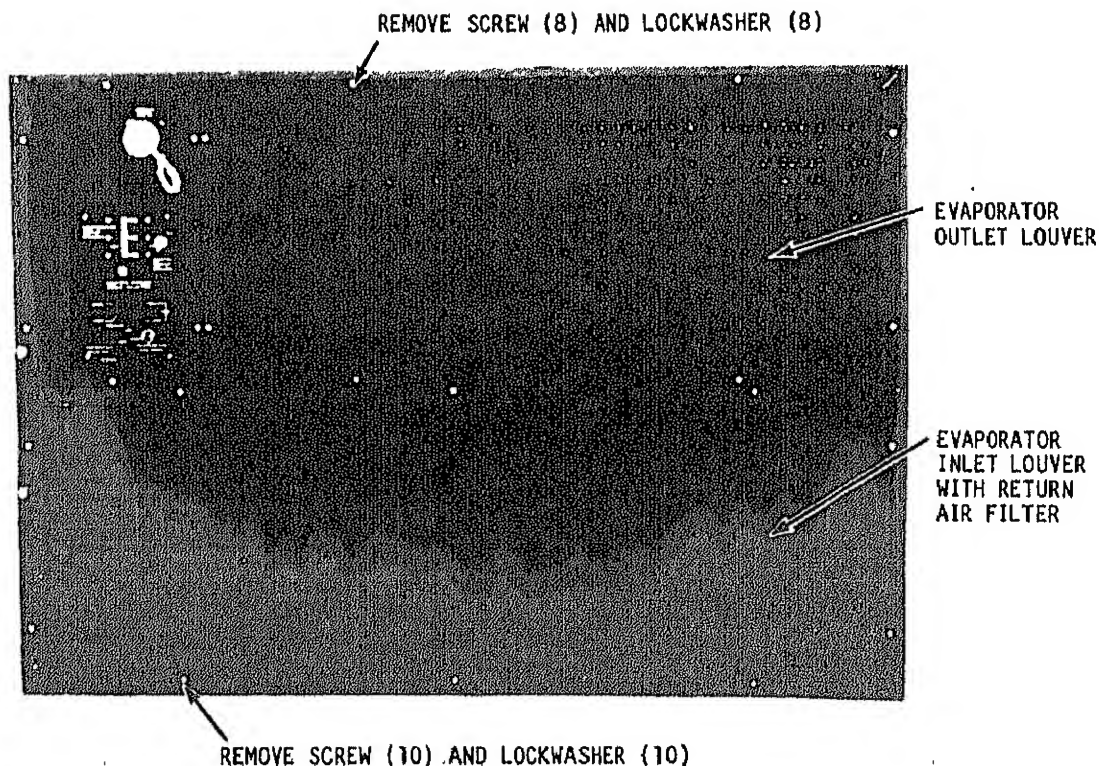

Figure 4-1. Evaporator inlet and outlet louvers, removal and installation
(1) Refer to figure 4-1 and remove evaporator air inlet louver.
(2) Refer to figure 4-1 and install evaporator inlet louver.
exchangers. Frequent cleaning of the external coil surfaces may avoid internal clogging. Clean external surfaces with a softbristled brush or a plastic fin comb. The plastic fin comb can be used to straighten bent coil fins. Clean internally-clogged coils with compressed air. Always direct the compressed air stream straight into coils, to avoid bending fins, and in the opposite direction of normal air flow. Remove covers and louvers (figure 4-1, 4-3 and 4-4) to service coils.
a. Removal. Refer to figure 4-1 and remove evaporator inlet and outlet louvers.
b. Installation. Refer to figure 4-1 and install evaporator inlet and outlet louvers.